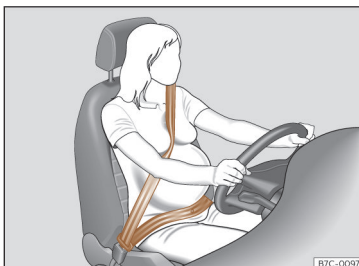

Fig. 22 Position of seat belt during pregnancy.
In the case of **pregnant women**, the seat belt must lie evenly across the chest and as low as possible over the pelvis, never across the stomach and must be worn properly at all times during the pregnancy >>> Fig. 22.
- For pregnant women, the lap part of the seat belt must lie as low as possible over the pelvis and always lie flat, "surrounding" the stomach»» Fig. 22 .